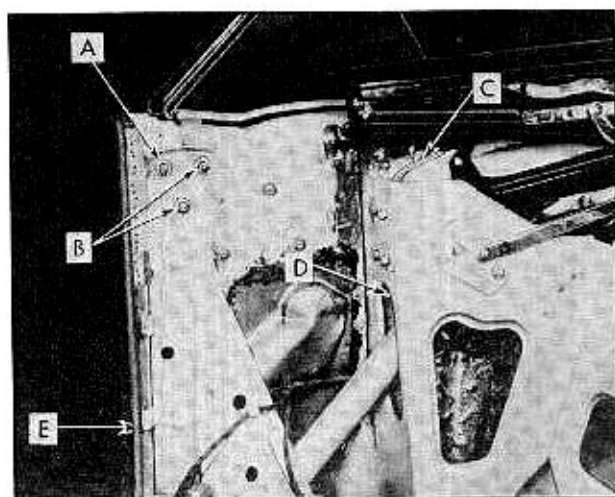

Fig. 3-44 Rear Quarter Window Assembly (6267)
4. Turn trim panel away from inner panel to gain access to pivot bolt "A". Fig. 3-44.
5. To adjust the rear quarter window in or out, loosen the pivot bolt and the adjusting stud nuts "B". Fig. 3-44. Turn the studs in or out until the desired position of the window is attained. Retighten stud nuts and pivot bolt.
7. The up travel of the window can be adjusted by loosening the stop attaching screws "C", Fig. 3-44, and moving the stop up or down as desired. Retighten screws when adjustment is completed.
8. In connection with the preceding adjustments, it may be necessary to adjust the rear quarter window guide channel. To adjust the guide channel, loosen screw "E" at lock pillar and adjusting stud nut "D", Fig. 3-44. Position the guide channel to the desired location and retighten screw and stud nut.
4. Turn trim panel away from the inner panel to gain access to pivot bolt "A". Then remove pivot bolt and disengage the rear quarter window male hinge from the female hinge plate. Fig. 3-44.